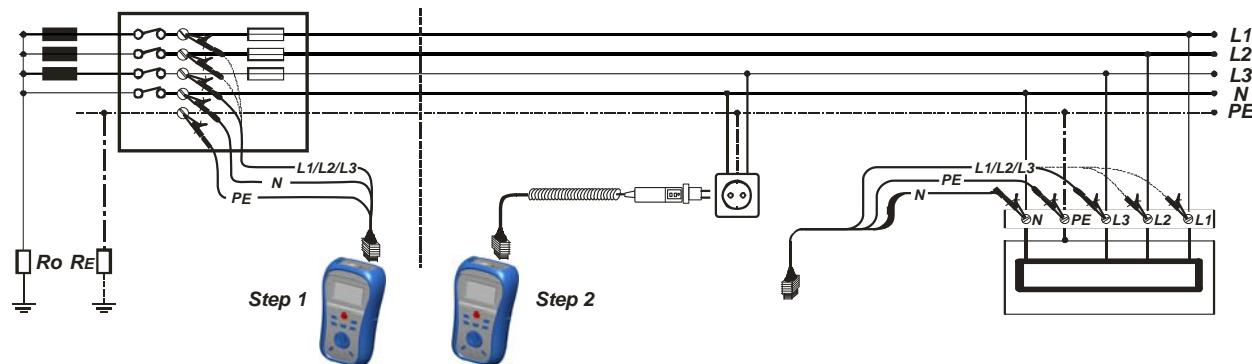

Figure 5.35: Phase-neutral or phase-phase voltage drop measurement – connection of plug cable and 3-wire test lead
- **Connect** the test leads to the origin of electrical installation (see *figure 5.35*).
- **Connect** the test leads to the tested points (see *figure 5.35*).